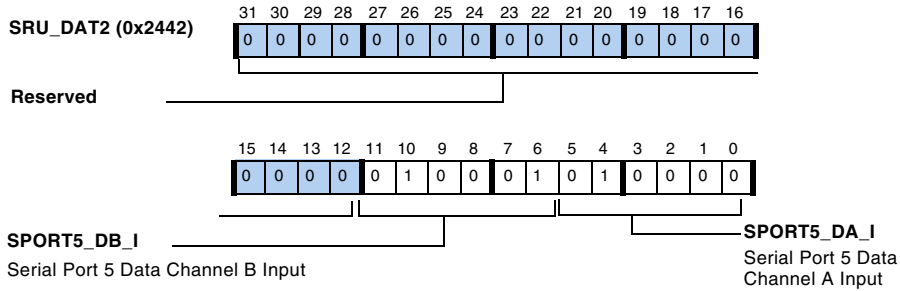

Figure A-40. SRU\_DAT2 Register
- `SRU_DAT2`, described in Figure A-40